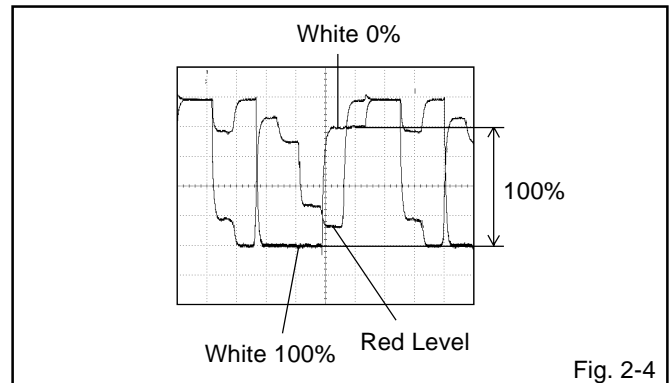

Fig. 2-4
6. Press the VOL. UP/DOWN button on the remote control until the red color level is adjusted to  $85 \pm 5\%$  of the white level. (**Refer to Fig. 2-4**)